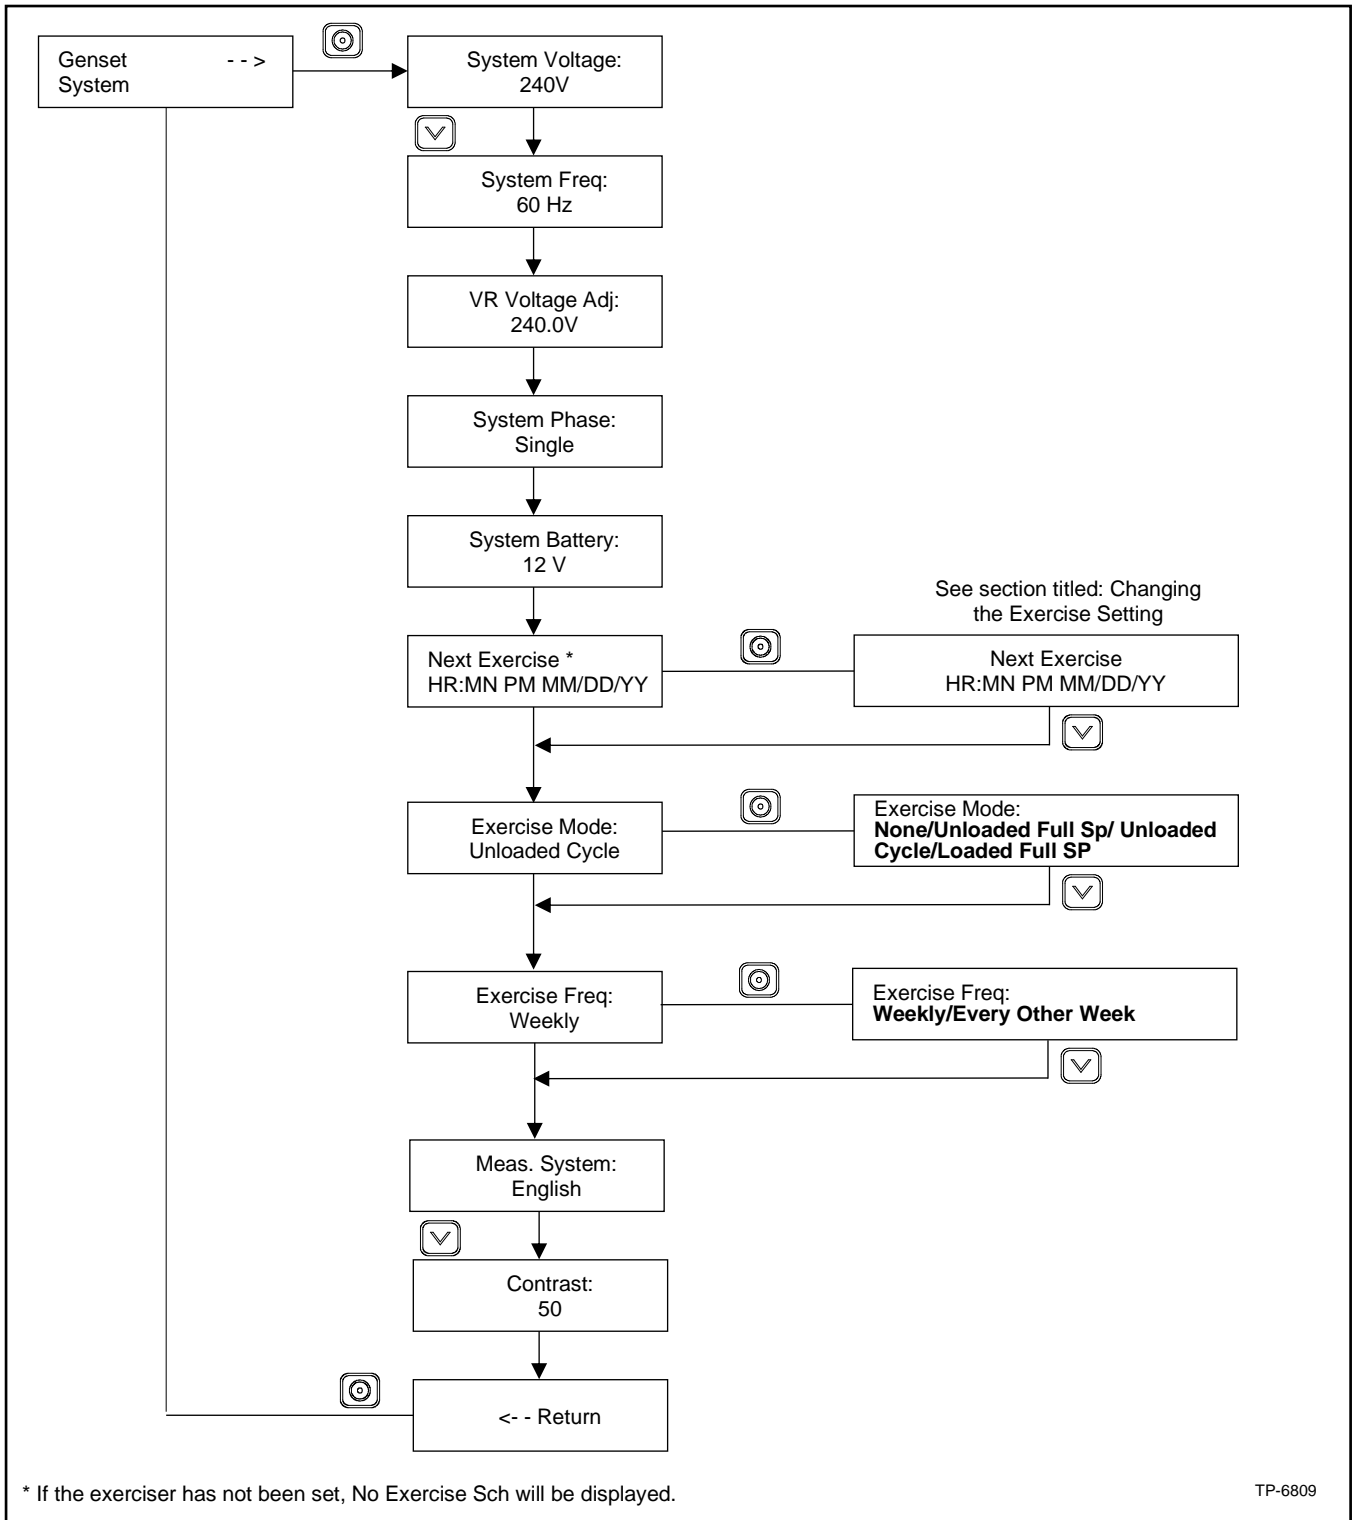

Figure 8 Procedure to Set the Exerciser
Set the date and time on the controller before setting the exercise schedule. Set the exerciser to automatically run the generator set for 20 minutes every week or every two weeks. Follow the procedure below and see the flowchart in Figure 8 to set the exercise time and date, mode, and frequency.
4. Press the Select button to enter the Genset system menu. See Figure 8.
11. If the generator set is connected to a Kohler® Model RXT transfer switch, the exercise can be changed to a loaded exercise. Set the Exercise Mode to loaded full speed, unloaded full speed, or unloaded cycle as shown in Figure 8.